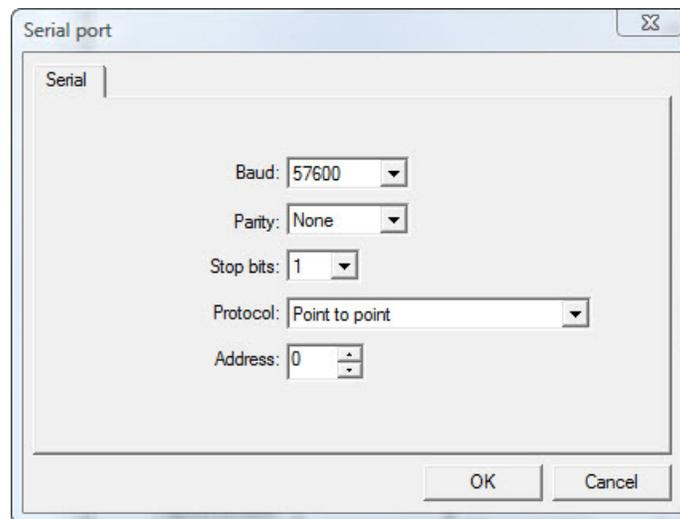

Figure 2-3: Serial port dialog box
- If you are using the serial interface, select the appropriate COM port number. Click OK to display the Serial port dialog box (Figure 2-3), then complete the fields in that dialog box.